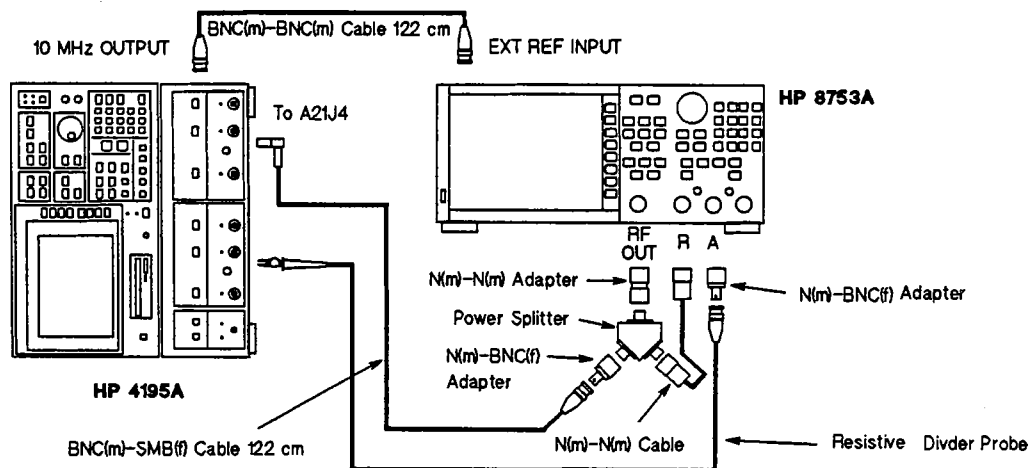

Figure 3-74. Receiver Second IF Converter 246 MHz BPF Adjustment Setup
1. Connect the equipment as shown in Figure 3-74 and 3-75.